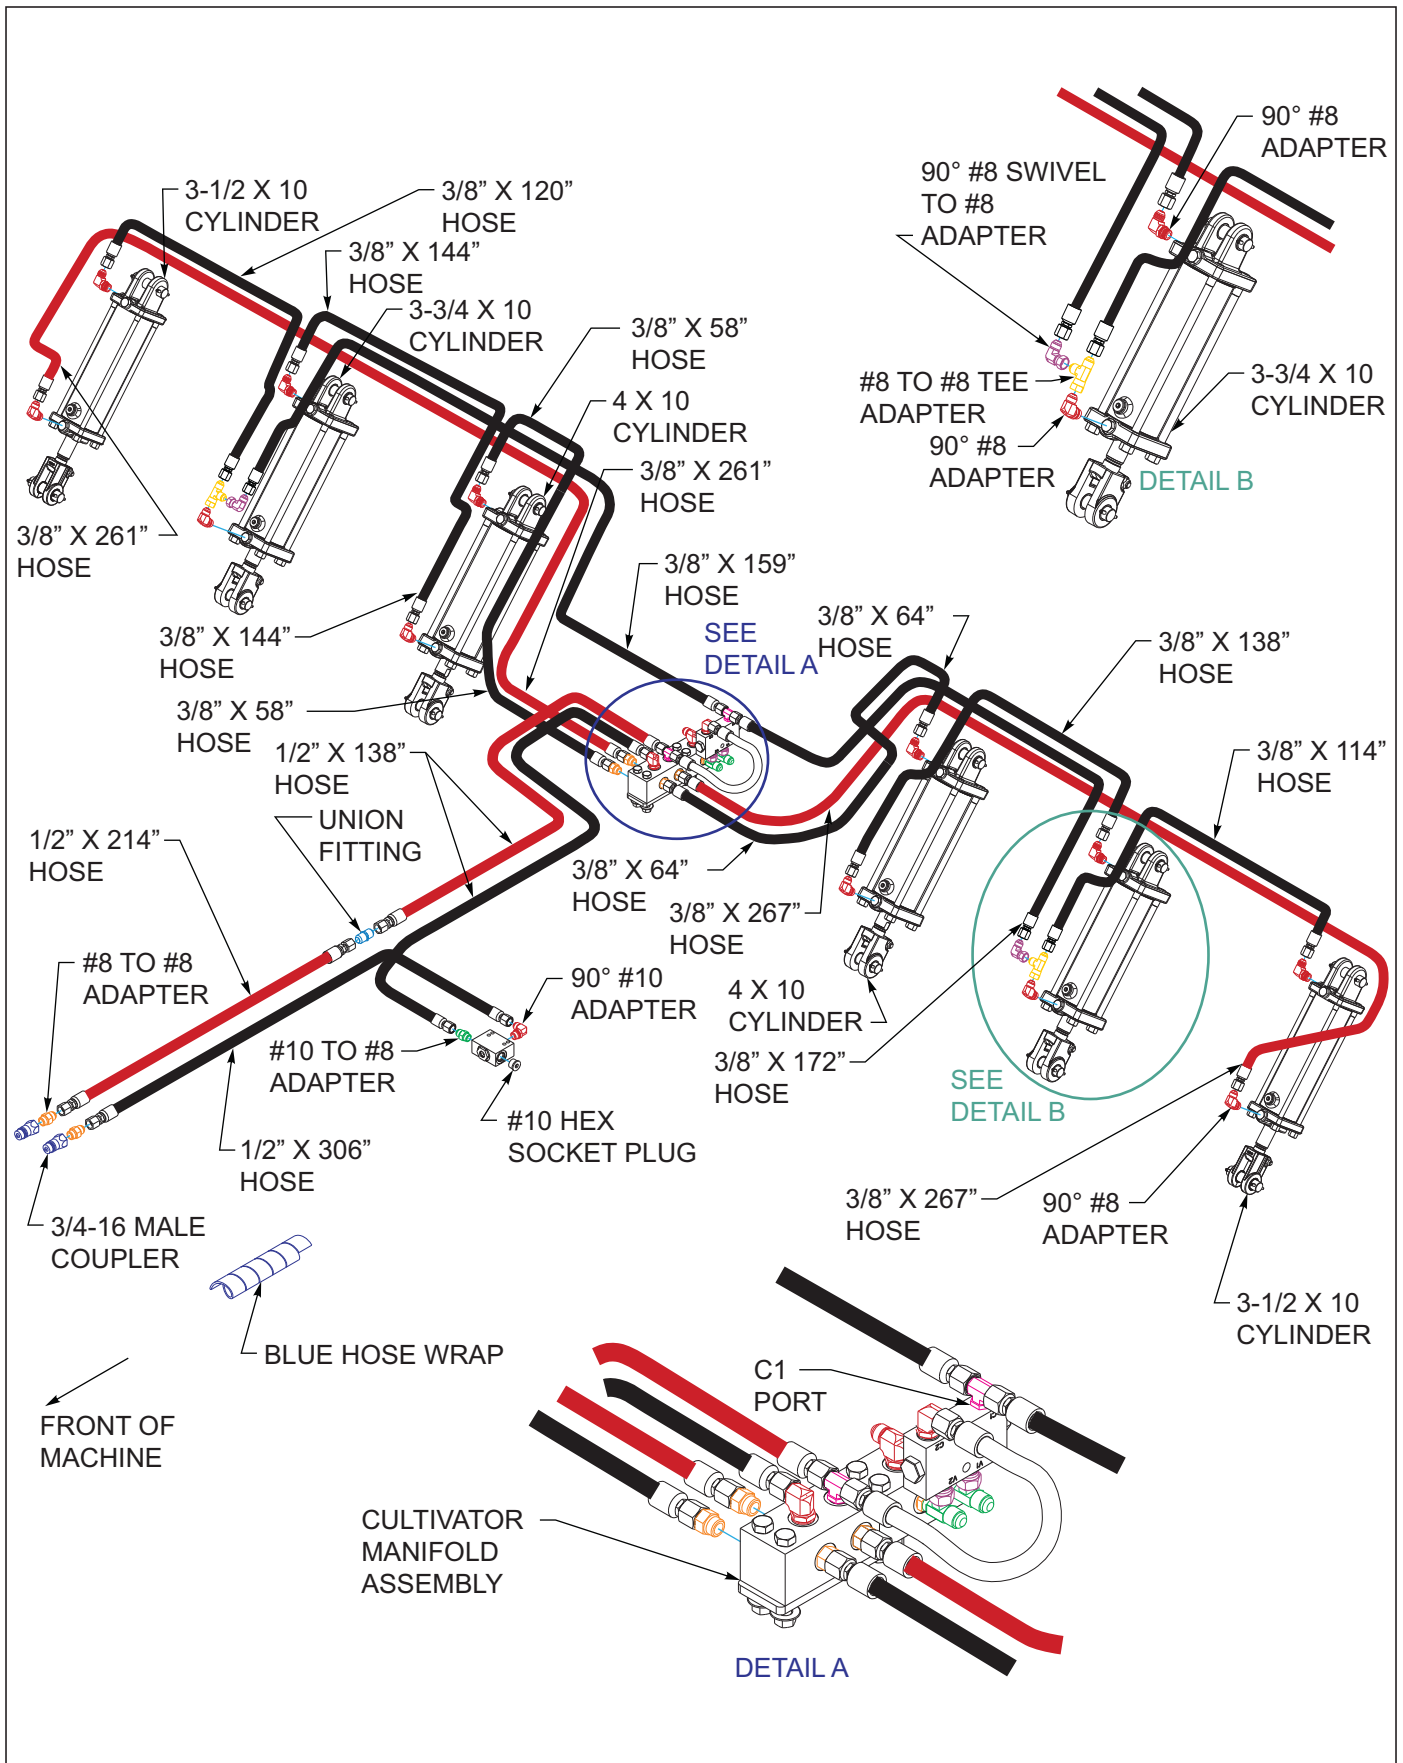
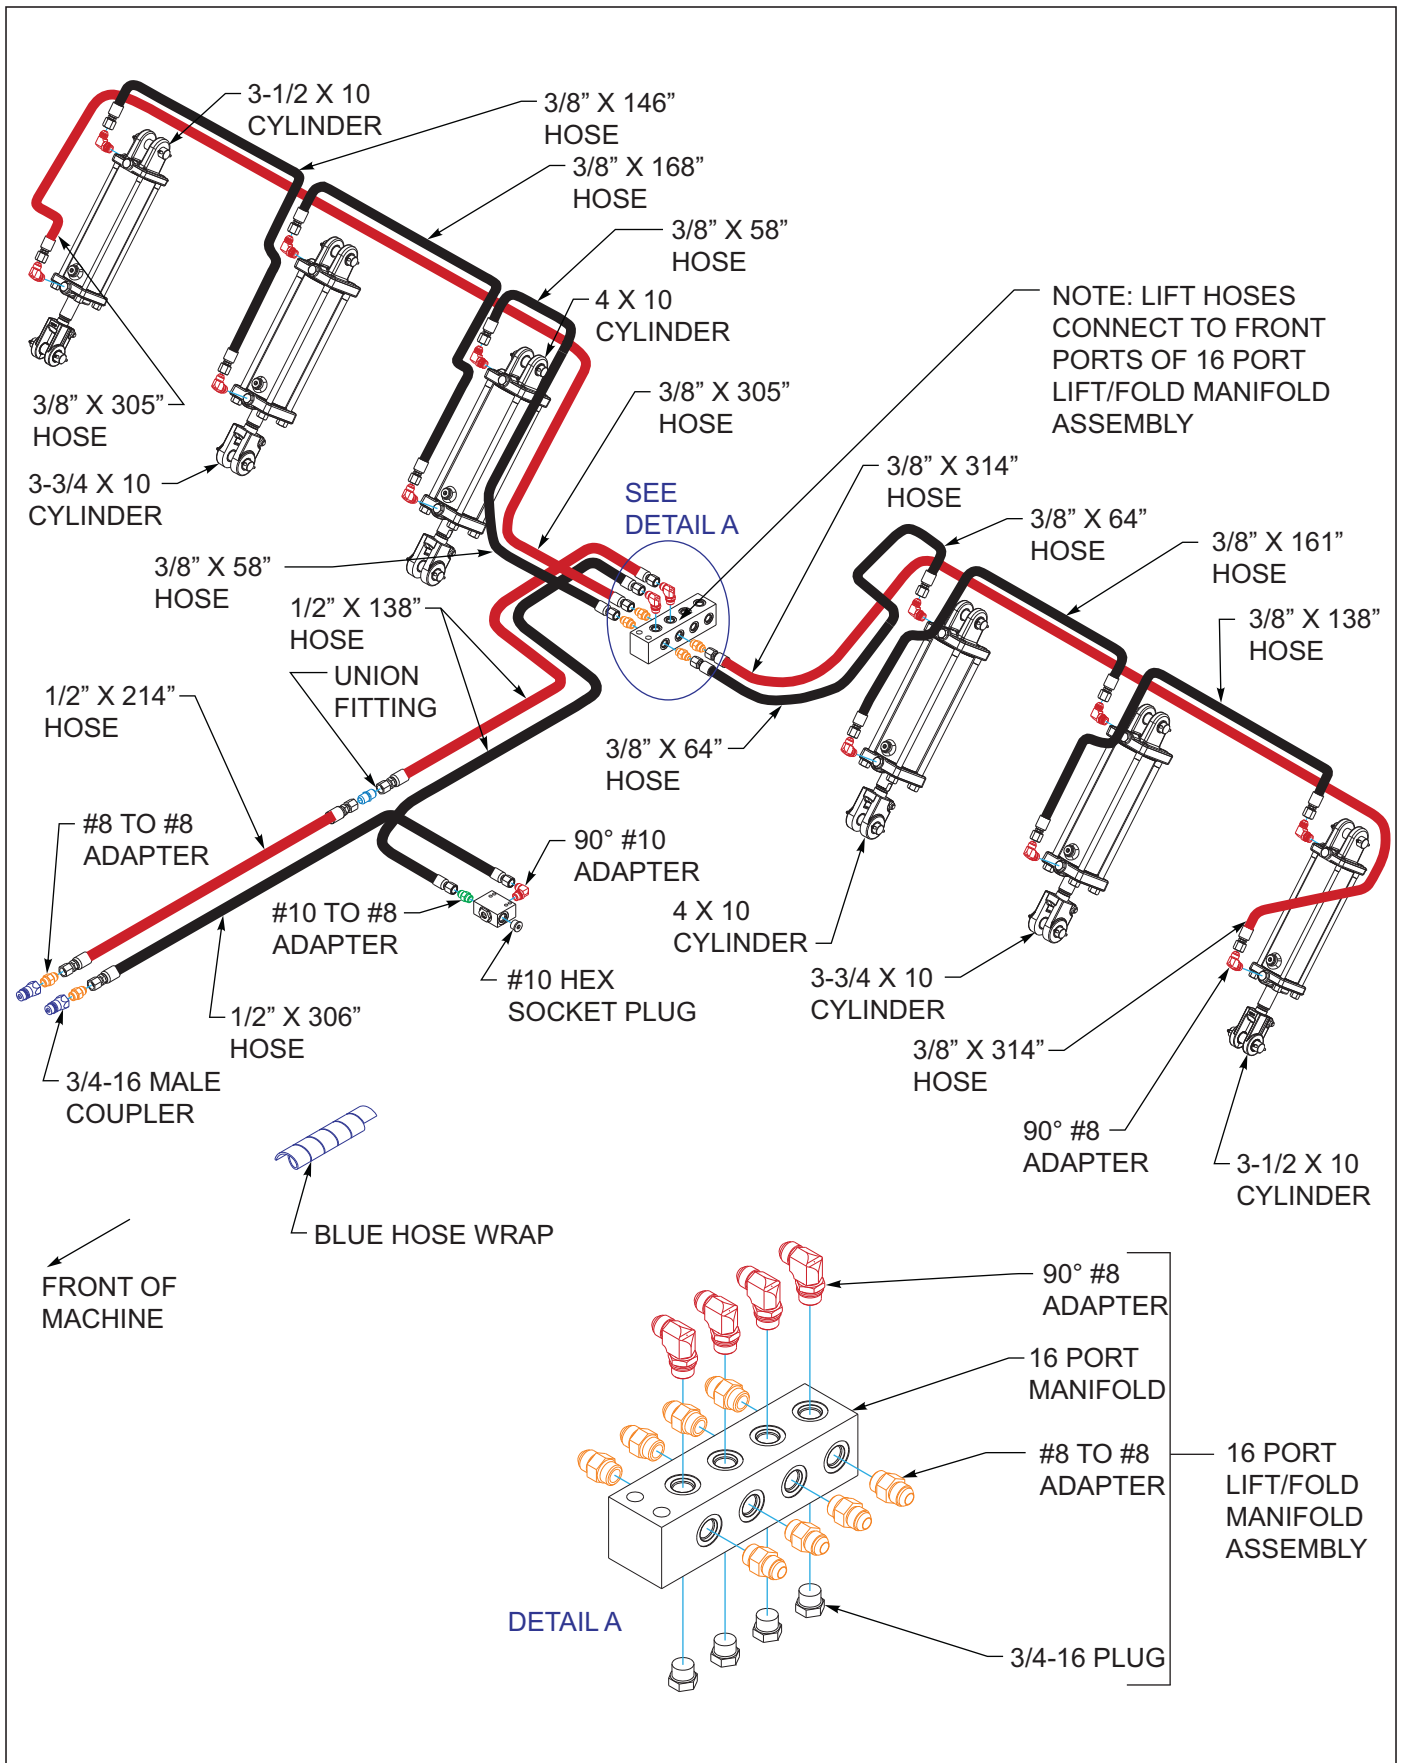

Figure 3-11: Hydraulic Lift Installation 9650FH-38' - 42'
Figure 3-17: Hydraulic Lift Installation 9650FH-46' - 50'
See Figures 3-11 through 3-22 for hydraulic cylinder fittings (factory installed and those installed during setup.)
Refer to Figures 3-11 and 3-16 for lift and fold hydraulic diagrams for 9650-38' and 9650-42' models.
Refer to Figures 3-17 and 3-22 for lift and fold hydraulic diagrams for 9650-46' and 9650-50' models.
4. Install 90 degree regular adapter fittings in both ends of all lift cylinders (4 x 10, 3-3/4 x 10, and 3-1/2 x 10) See Figures 3-11 and 3-17. Install base fitting in side port, with both fittings pointing upward.
9. Install lift system hoses per **Figure 3-11 (9650-38 and 9650-42) or Figure 3-17 (9650-46 and 9650-50.)** Wrap lift system hoses with blue hose wrap.